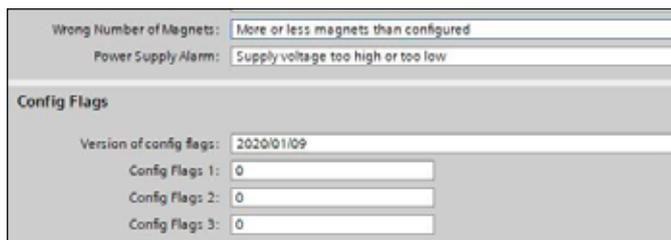

Fig. 79: Config Flags – Encoder profile
- **Accepting negative preset values:** You can use the “Config Flags 1” entry to set that negative preset values are also accepted in addition to positive preset values. You can adjust this in the module parameters of the module “Standard Parameters” in the “Config Flags” section (Fig. 79). You can set the following values for bit 2 of the “Config Flags 1” entry:
- **Setting the parameter P65005:** You can use the “Config Flags 1” entry to set how to change the parameter P65005. You can adjust this in the module parameters of the module “Standard Parameters” in the “Config Flag” section (Fig. 79). You can set the following values for bit 3 of the “Config Flags 1” entry: